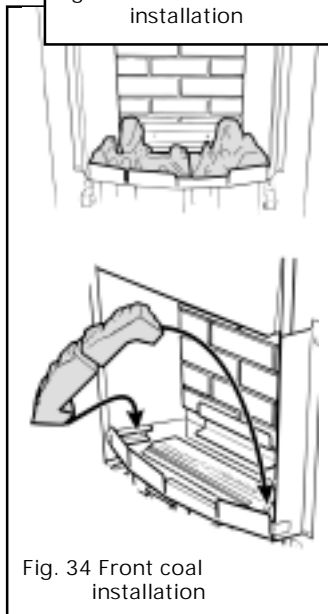

Fig. 34 Front coal installation
**10.2** Place the two halves of the front base coal in the burner compartment so that they rest on the ledges at the sides and front. Pull the coals forward so that they are **immediately behind the front rim of the burner compartment** (See figure 34).